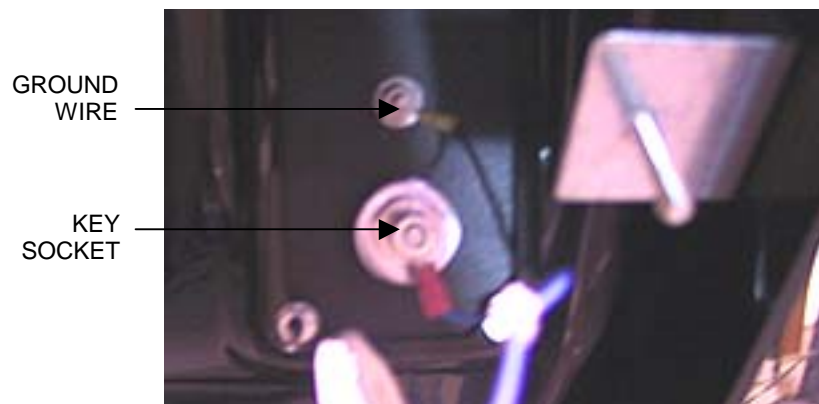

FIGURE 2 - KEY SOCKET AND GROUND WIRE CONNECTIONS
5. Proceed to the top of the bezel and remove the key socket wire and ground wire. See Figure 2. Also remove the wire connection to the coin mechanism on the opposite side of the bezel.
6. Return the bezel in place on top of the game, but do not secure it. Reconnect all wire connections attached to the bezel, including the key socket wire, ground wire (see Figure 2), coin mechanism and button controller connections.